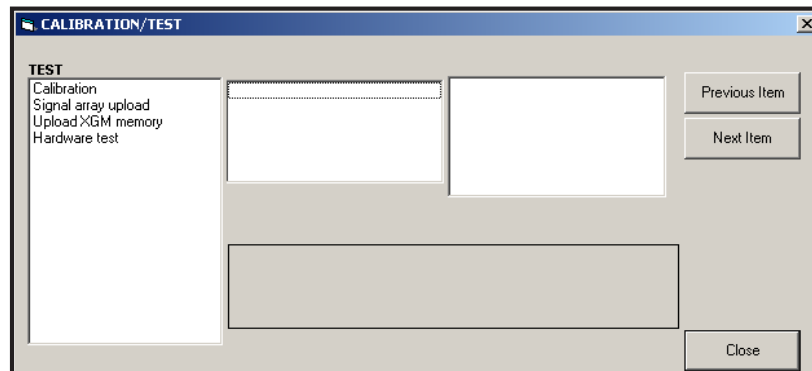

Figure 10: The *Calibration/Test* Menu
5. To enter data into the user program, double-click on the *Calibration/Test* menu. The window appears similar to Figure 10.
1. From the *Calibration/Test* menu (see Figure 10 on page 42), double-click on the *Calibration* entry to open the option.
To calibrate any option card installed in Slot 1 of the XGF868i, enter the *Calibration/Test* menu as shown in Figure 10 on page 42.